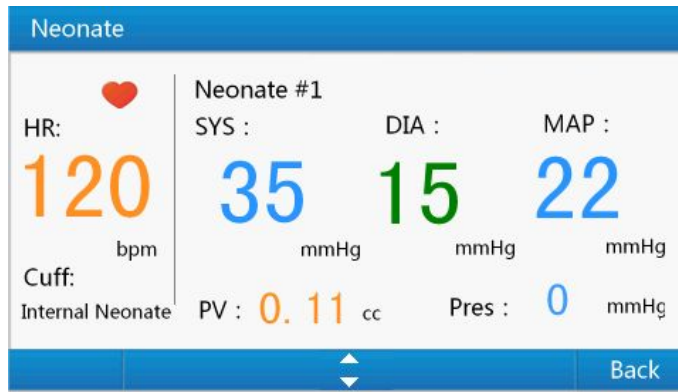

Figure 20 Neonate BP simulation interface
- 1) Select **"Neonate"** in **"BP Simulation Menu"** or use number key **"8"** to the neonate BP simulation interface shown as Figure 20.